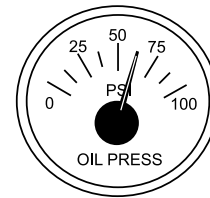

Figure 35. Oil Pressure Gauge
12. The engine oil pressure gauge (Figure 35) will indicate the oil pressure of the engine. Under normal operating conditions the oil pressure is approximately 50 psi. (345 kPa).